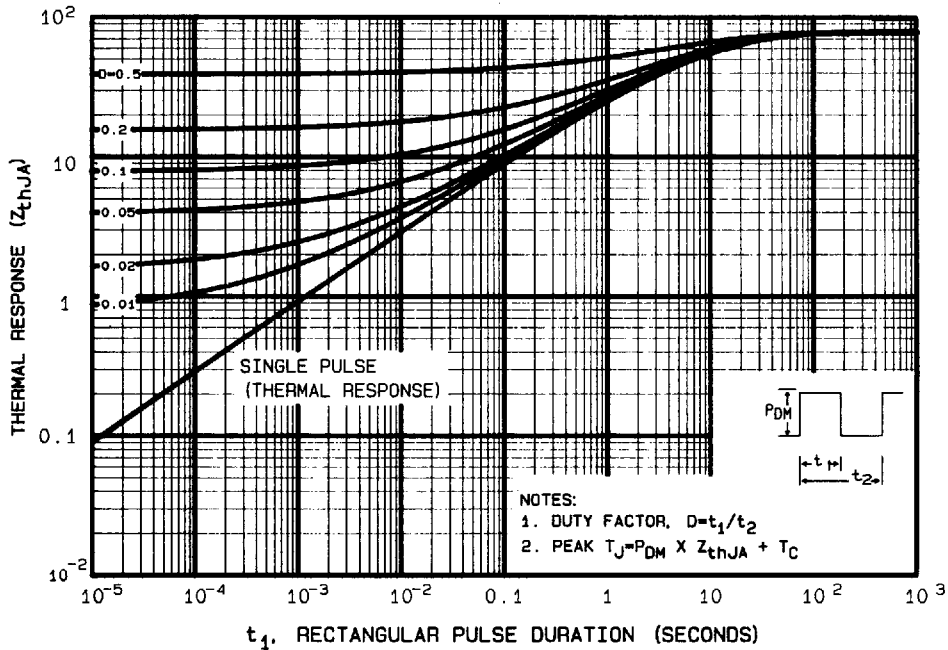

Fig. 9 — Maximum Effective Transient Thermal Impedance, Junction-to-Ambient Vs. Pulse Duration
① Repetitive Rating: Pulse width limited by maximum junction temperature (see figure 9) Refer to current HEXFET reliability report
③ $I_{SD} \leq -0.75\text{A}$, $di/dt \leq -75\text{ A}/\mu\text{s}$